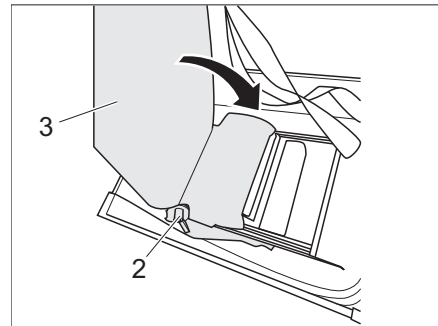

Fig. 226 Stow the seat back in the bench
- Engage lever 1 (Fig. 226,2) and fold the seat back (Fig. 226,3) inwards.